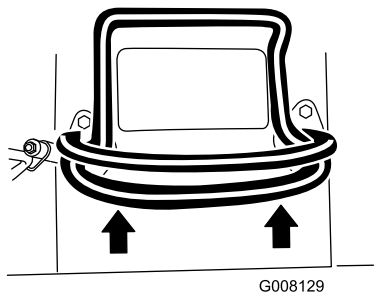

Figure 7
- To move forward, move the traction control forward (Figure 7).